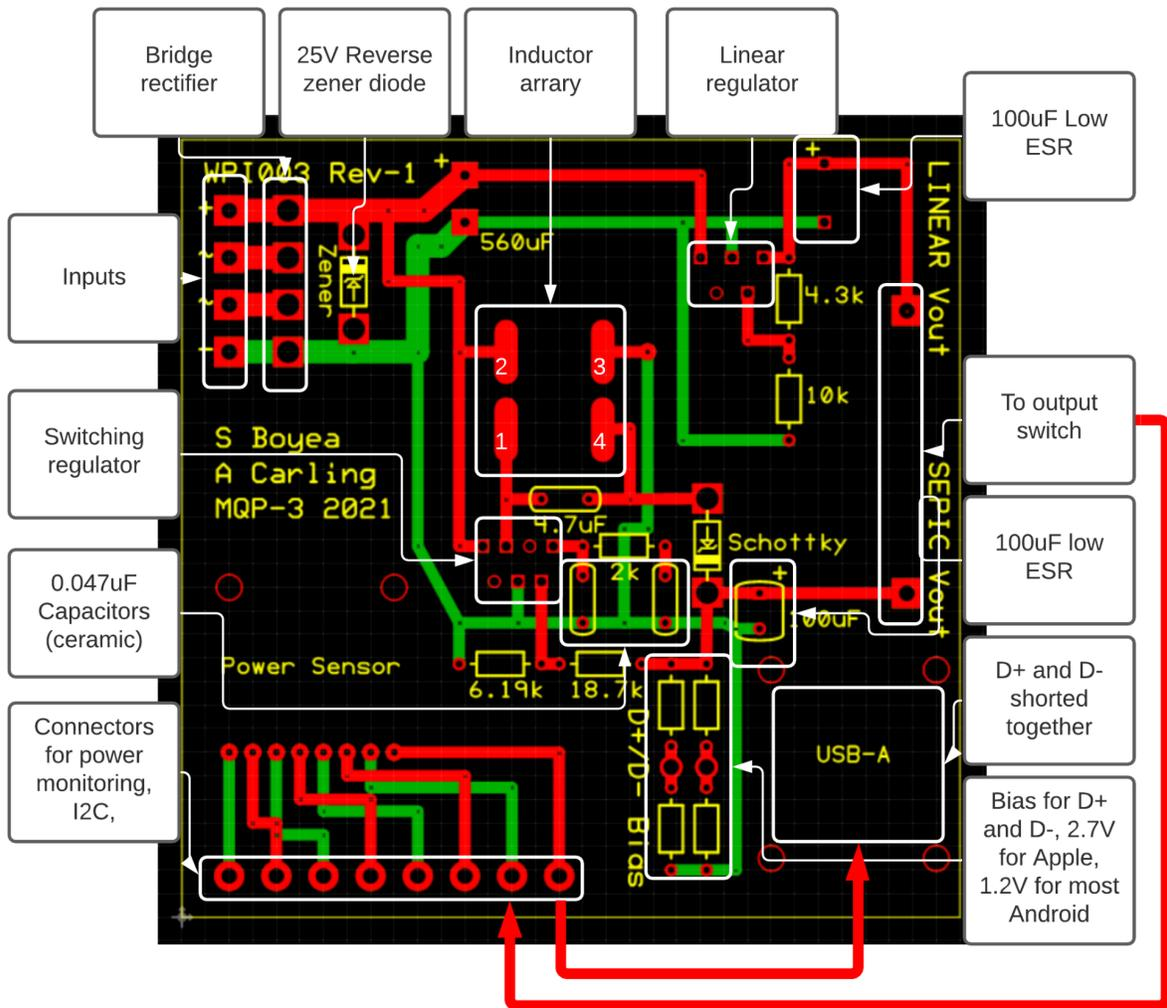

Figure 2: PCB Design Annotated
- 4) In order to populate the PCB with the selected components, refer to Figure 2 for information regarding placement location and orientation. This is essential to achieve desired circuit performance.
- 6) The design makes use of two switches. One to switch between the linear and switching regulator circuits and the other to switch between Apple and Android charging modes. Switch connection locations can be visualized in figures 2 and 3.